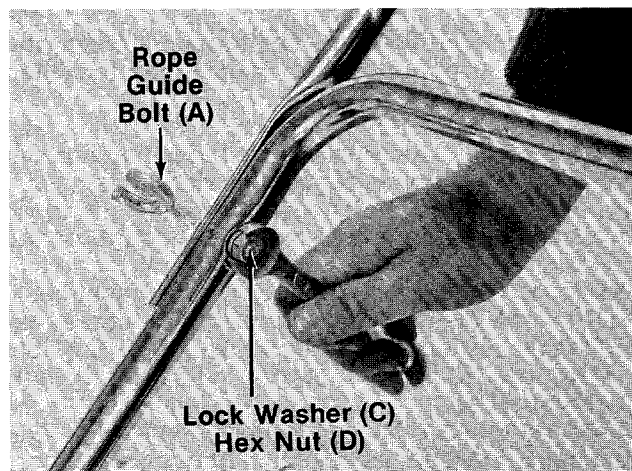

FIGURE 3.
4. Place the upper handle in position over the lower handle. The control housing must be on the left hand side of the handle. Secure the right hand side of upper handle using the rope guide bolt (A), lock washer (C) and hex nut (D) as shown in figure 3.